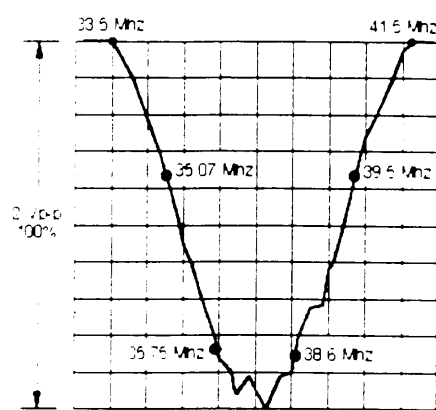

Fig 4.
#### Preparation Step (see fig.4)
- 5: Adjust tuner convertor coil to obtain the waveform as shown in Fig 4.